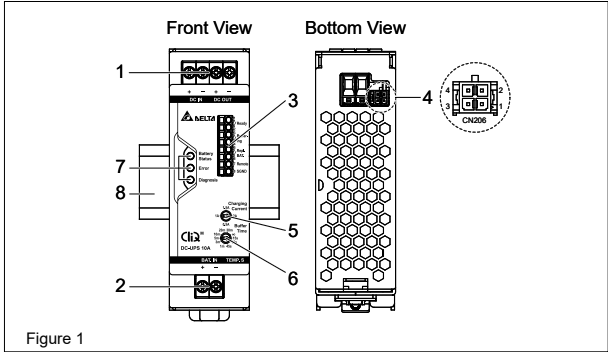

Figure 1
- 2. Geratbeschreibung (Abb. 1)
- 5.1. Signal-Klemmenleistenstecker (Abb. 1 (3), Tabelle 1)
- 2. Device description (Fig. 1)
Table 1: Connection specifications for different screw types and terminal configurations. Includes columns for Refer to Fig. 1, Stranded / Solid, Torque, Stripping Length, and Remarks.
- 5.1. Signal terminal block connector (Fig. 1 (3), Table 1)